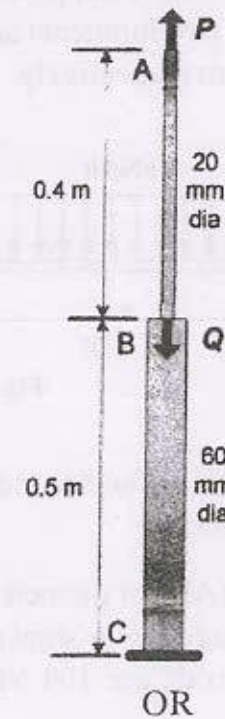

Fig. 1
- a) Construct the influence line diagrams for force in members  $U_1U_2$ ,  $L_1L_2$ ,  $L_2U_3$  and  $U_1L_1$  of the through truss shown in fig. 1
- b) The rod  $ABC$  is made of an aluminum for which  $E = 70 \text{ GPa}$  as shown in Fig. 1. Knowing that  $P = 6 \text{ kN}$  up at point  $A$  and  $Q = 42 \text{ kN}$  down at point  $B$ , determine the deflections at point  $A$  and point  $B$ .  $AB = 0.4 \text{ m}$  and  $20 \text{ mm}$  dia,  $BC = 0.5 \text{ m}$  and  $60 \text{ mm}$  dia. [13]